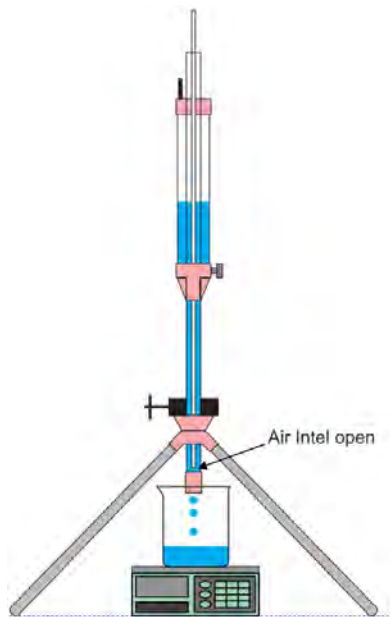

Fig. 40
**Pull up the Air Tube very slowly (Fig. 40)** to create a slow water flow out of the Water Outlet Tip and into the Beaker. If the water in the Reservoir falls too quickly, push down the Air Tube to decrease the rate of water fall in the Reservoir.